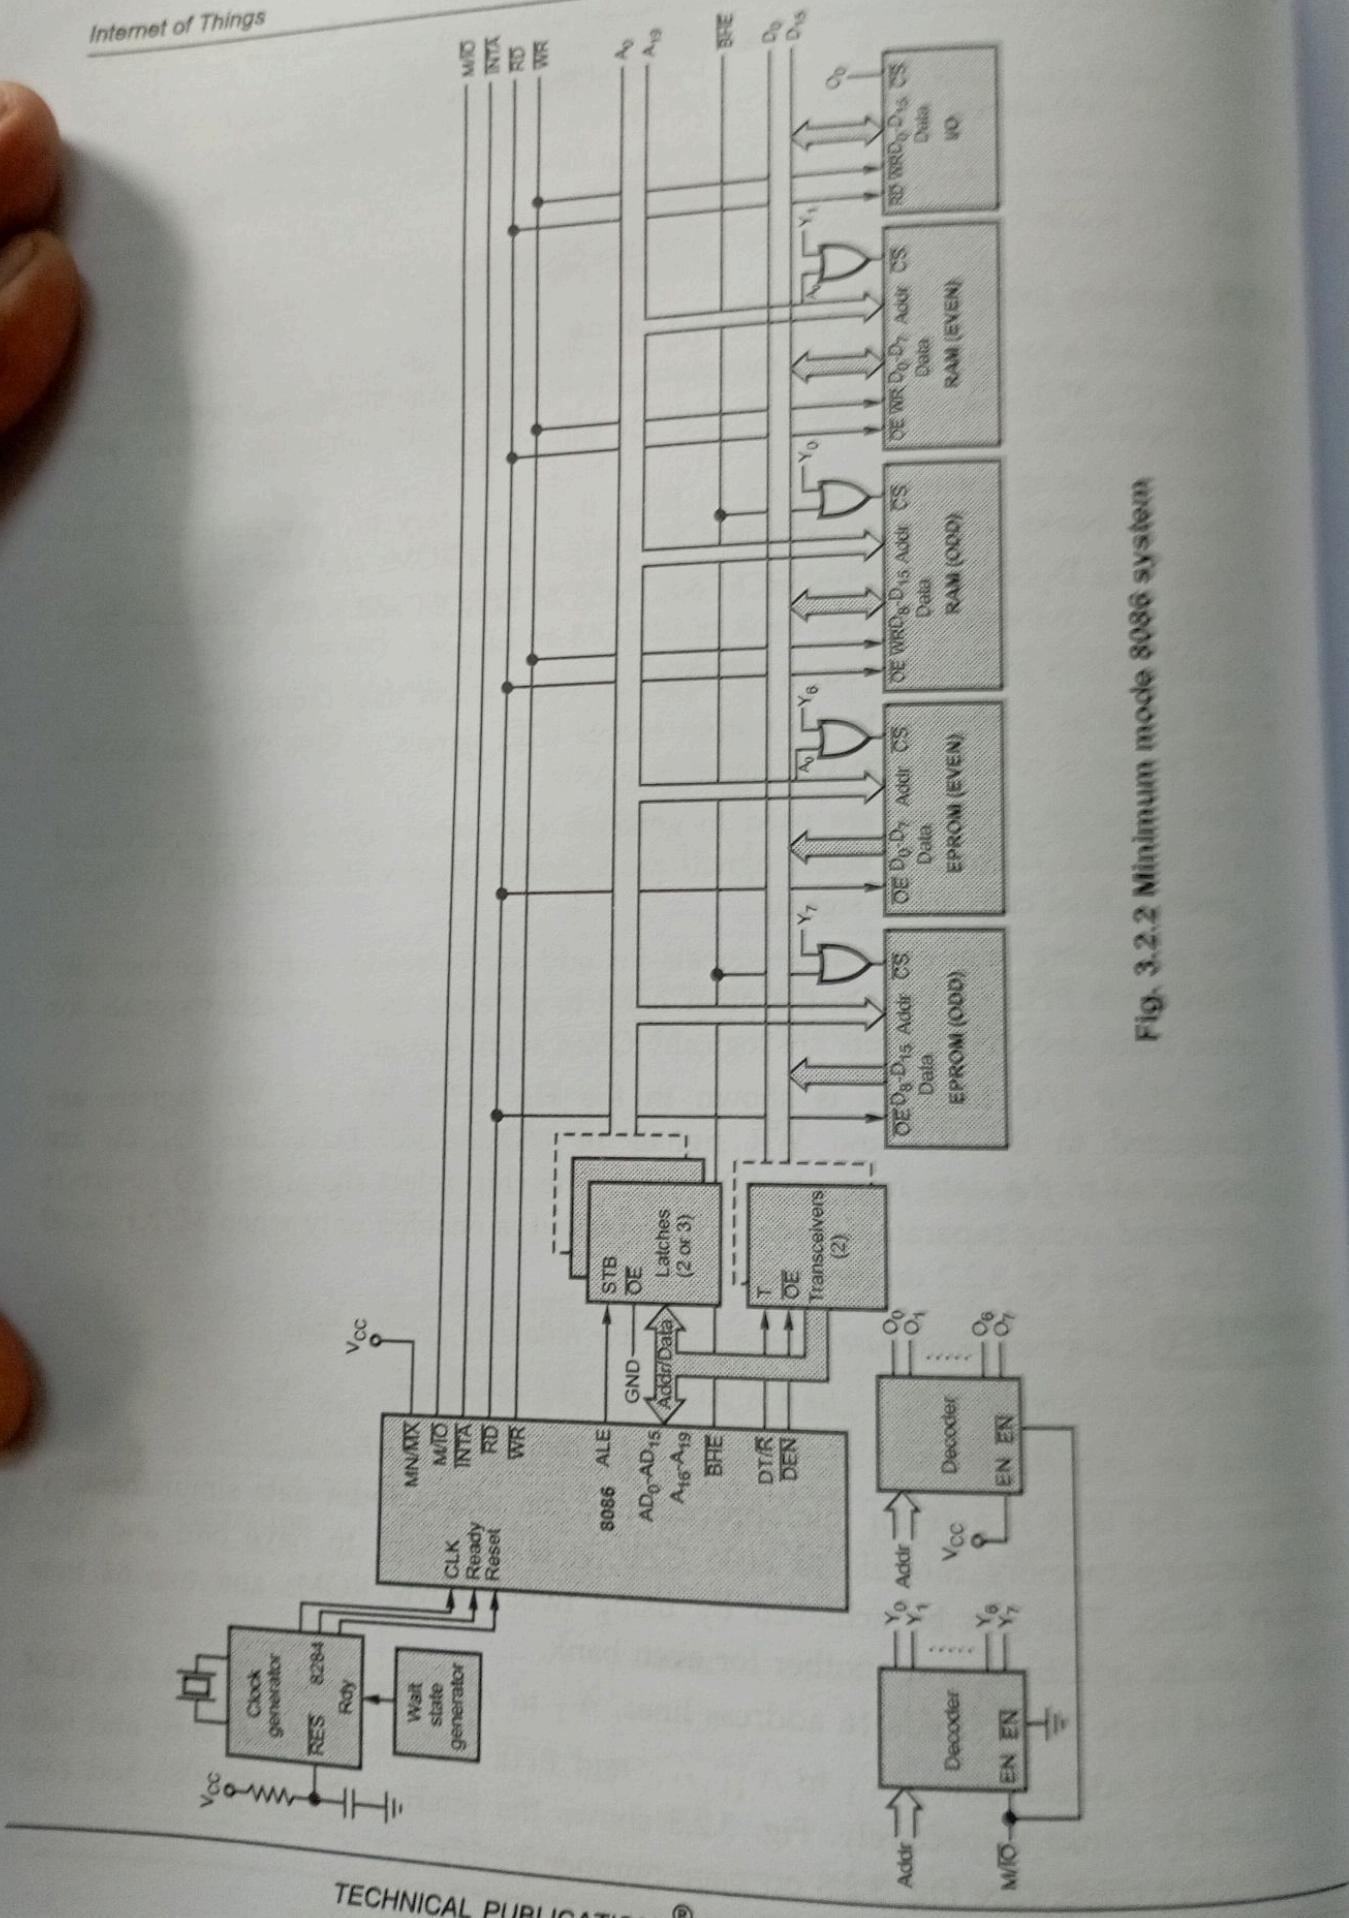

Fig. 3.2.2 Minimum mode 8086 system
- Fig. 3.2.2 shows the typical minimum mode 8086 system. Here, interfacing of memory and I/O devices are shown with the basic minimum mode 8086 configuration.
- The 16-bit I/O interface is shown in the Fig. 3.2.2. \overline{RD} and \overline{WR} signals are connected to the \overline{RD} and \overline{WR} signals of I/O device. Data lines $D_{15}-D_0$ are connected to the data lines of I/O device. The chip select signal for I/O device is generated using separate decoder whose output is enabled only when M/\overline{IO} signal is low. (See Fig. 3.2.2 on next page.)